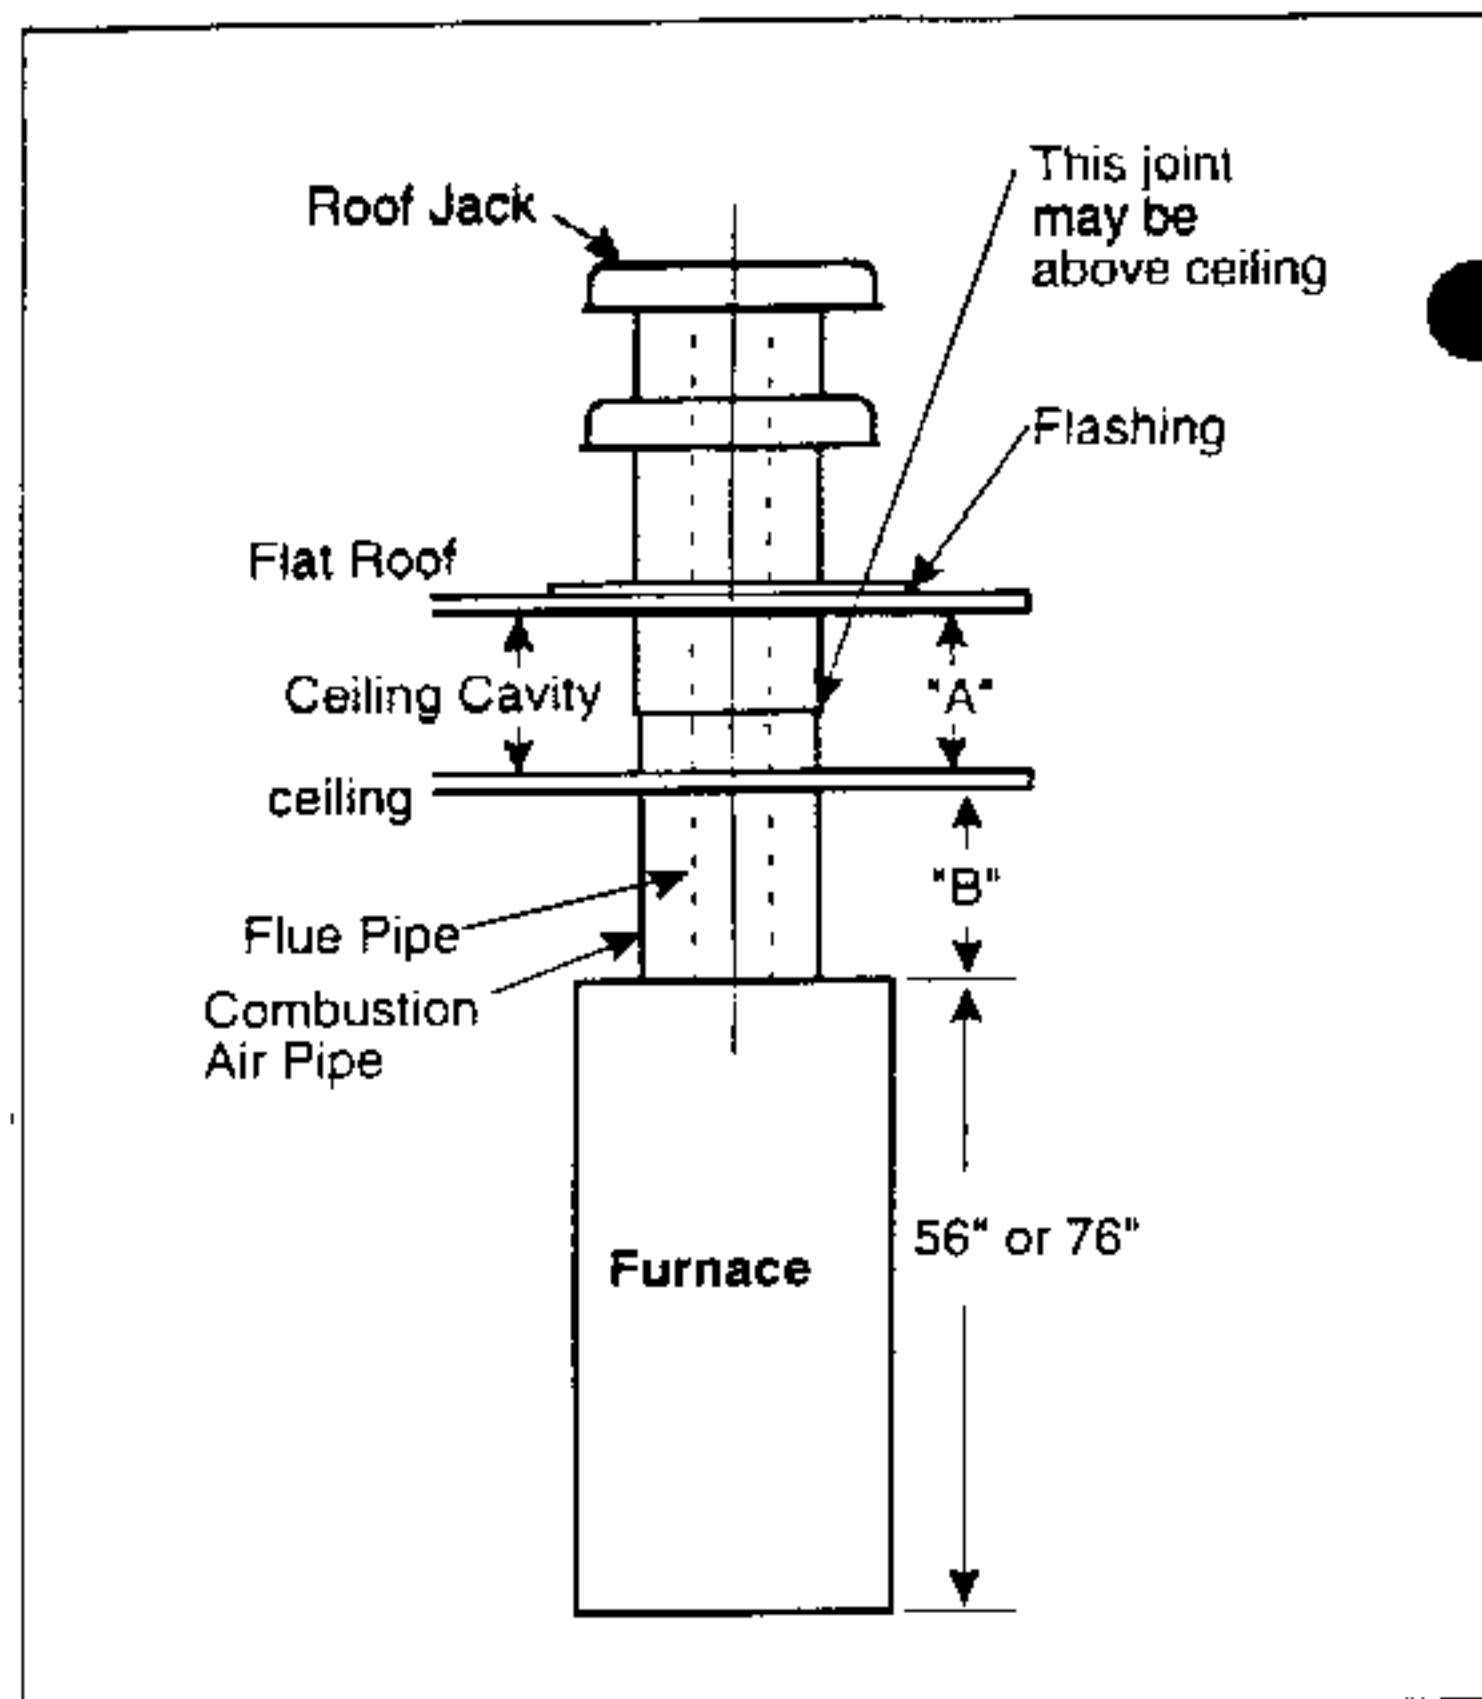

Figure 7. Roof Jack Assemblies
- Determine depth of ceiling cavity from center of roof opening to center of ceiling opening. (See Dimension "A" in Figure 7.)
- Determine ceiling height and subtract height of furnace. (See Dimensions "B" in Figure 7.)